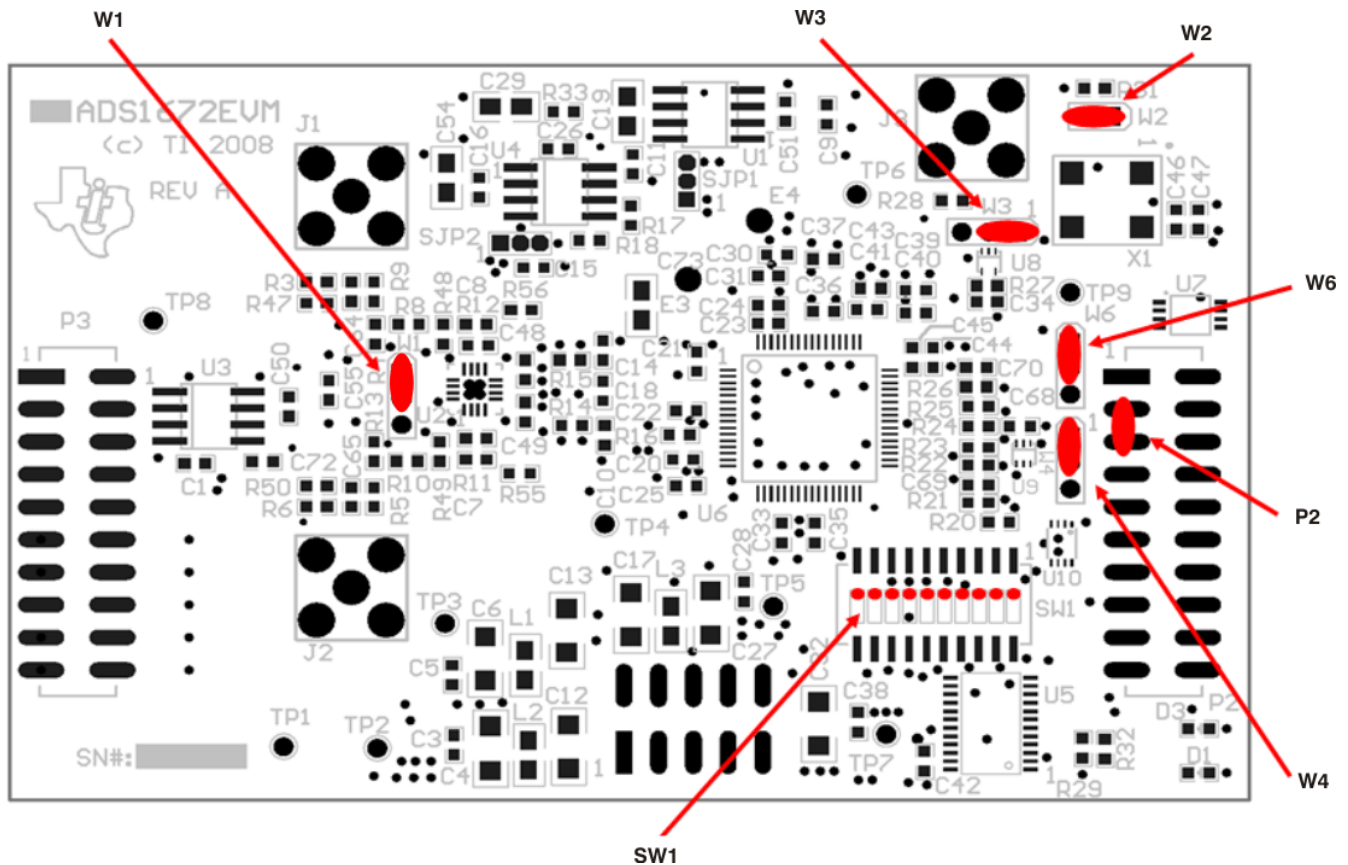

Figure 8. ADS1672EVM Default Jumper Locations
Figure 8 shows the jumpers found on the EVM and the factory default conditions for each.
Step 4. Set the jumpers and switches on the ADS1672EVM as shown in Figure 8 (note that these settings are the factory-configured settings for the EVM).